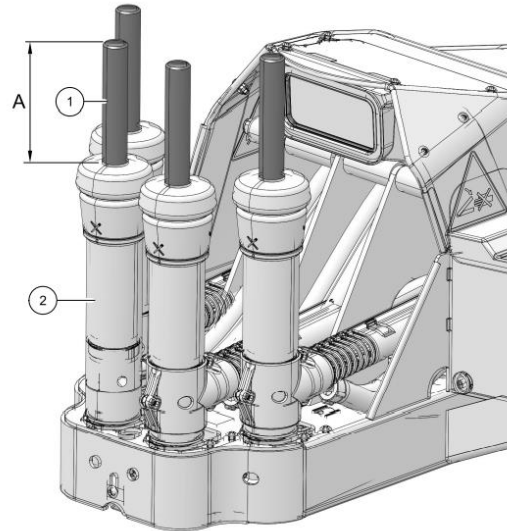

Figure 92. TDS-II test tool
4. Refer to figure 92 for an example of the vertical position for the teat cups